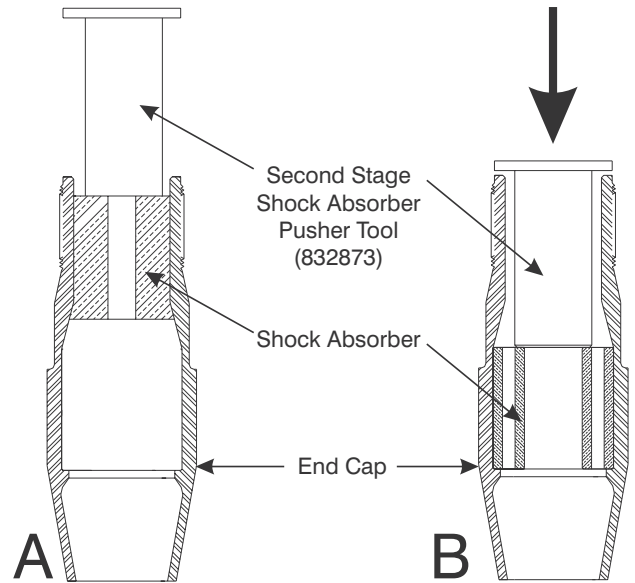

Figure 9-4. Seat the Shock Absorber in the End Cap.
8. Center the Second Stage Shock Absorber Pusher 832873 over the Shock Absorber as shown in Figure 9-4-A.
9. Press the Shock Absorber into the End Cap until it seats against the shoulder at the non-threaded end of the cap as shown in Figure 9-4-B.